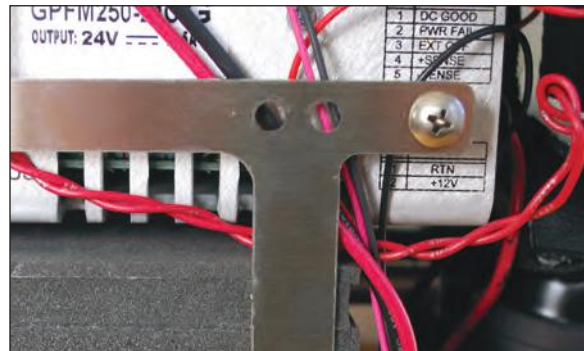

Figure 76 - Step 8 Route wires behind bracket
- Route the pump and fan wires between the power supply and the thermoelectric subassembly bracket (Figure 76). Make sure the fan wires are tucked into the same location with the pump wiring.